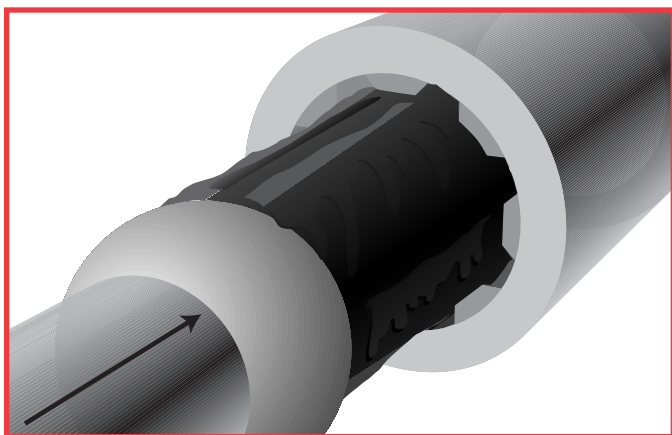

Figure 26. Install coated spline into shaft and remove excess epoxy.
4. **Mix and apply** the recommended repair compound to the spline shaft. Do not apply product into the socket. Immediately push the spline shaft into the socket and remove excess material. (See figure 26)